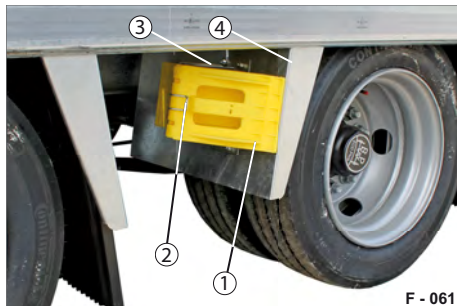

Fig. 86 Wheel chocks on the mudguard
- Press down the retaining spring (Fig. 86/2) from the chock.
- Pull the chock (Fig. 86/1) out of the holder.
- Insert the chock fully into the holder (Fig. 86/3).
- The retaining spring (Fig. 86/2) automatically secures the chock.